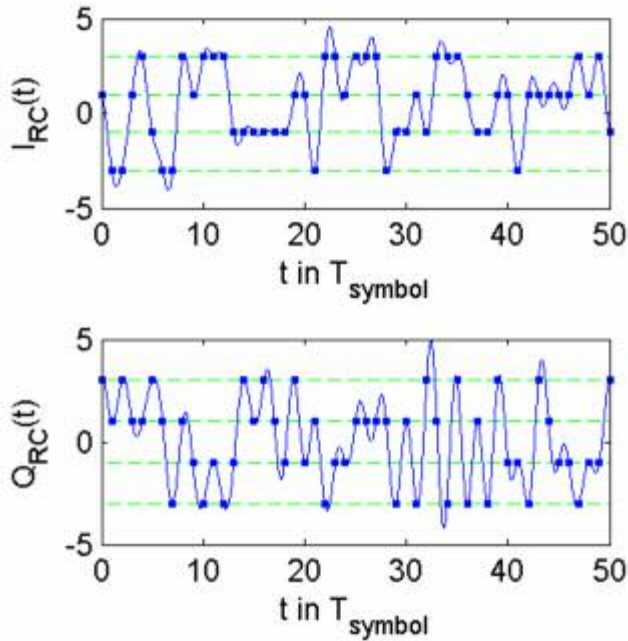

Fig. 2-42 Raised cosine filtered dirac signals  $I_{RC}(t)$  and  $Q_{RC}(t)$
We notice that the symbol instants (highlighted with squares) are not on the horizontal lines (possible symbols levels) anymore. This is due to the inter-symbol interference introduced by the root raised cosine TX filter. Contrary to the signal filtered with two root raised cosine filters (TX and RX) the one filtered with a single root raised cosine filter (TX) does not satisfy the condition for zero inter-symbol interference. Fig. 2-42 shows the signal obtained by filtering the dirac signals with two root raised cosine filters. The convolution of two root raised cosine filters is also called raised cosine filter. We observe that all symbol instants (highlighted with squares) of  $I_{RC}(t)$  and  $Q_{RC}(t)$  have exactly the same levels as the signals  $I_{dirac}(t)$  and  $Q_{dirac}(t)$  in Fig. 2-39. Please note, that the signals  $I_{RC}(t)$  and  $Q_{RC}(t)$  can only be observed in the receiver and only for a undistorted transmission. They have been mentioned here for explanatory reasons.